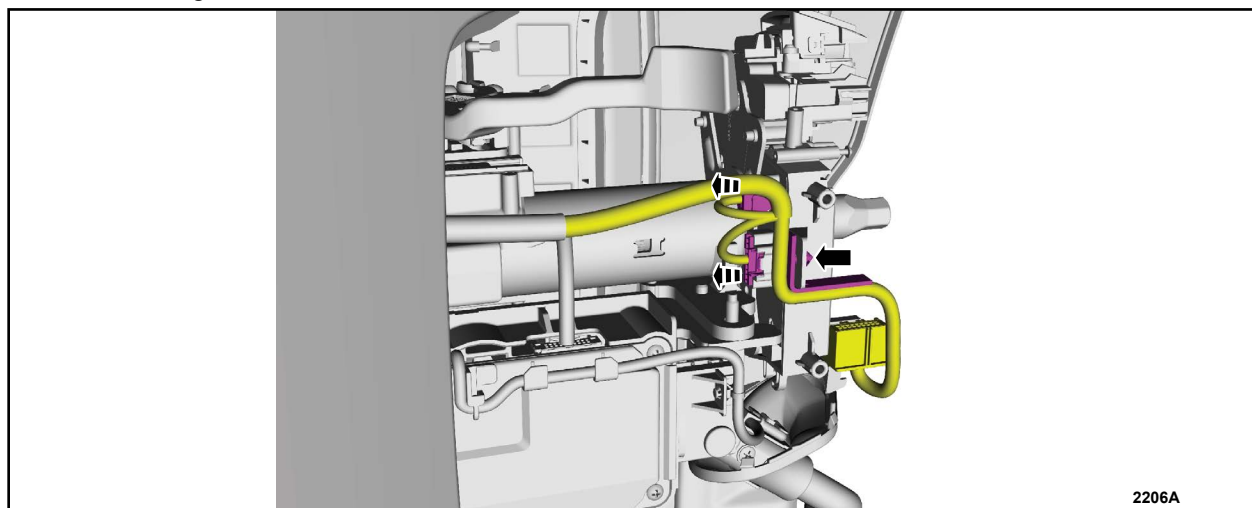

FIGURE 13
7. Disconnect the SCCM electrical connectors, unclip the pin type retainer and position the harness aside. See Figure 13.